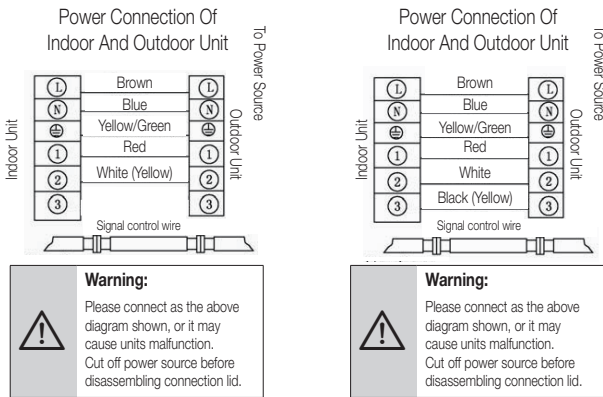

Fig.14
- Connect the power connecting wires and signal control wire separately to the corresponding terminals. (In Fig.14, please choose the same wiring diagram just with the wiring diagram of unit.)
- Connect the connecting wires of the unit separately to the corresponding terminals. (Fig.14)